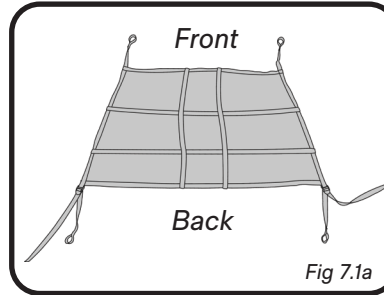

Fig 7.1a
1. Feed the non-adjustable ends (front) of the cargo net (K) between the hardtop and the roof support/roll bars. (Fig 7.1a, b)